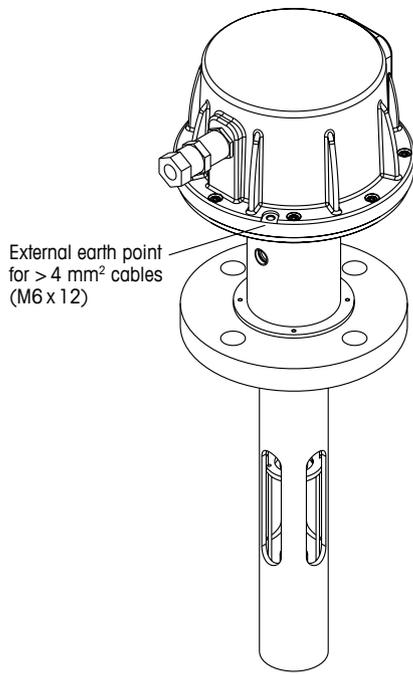

Figure 20 External earth point.
- The GPro™ 500 must be connected to an external protective earthing system via one of the screws for the lid to the sensor head (see Figure 20 on page no 46).